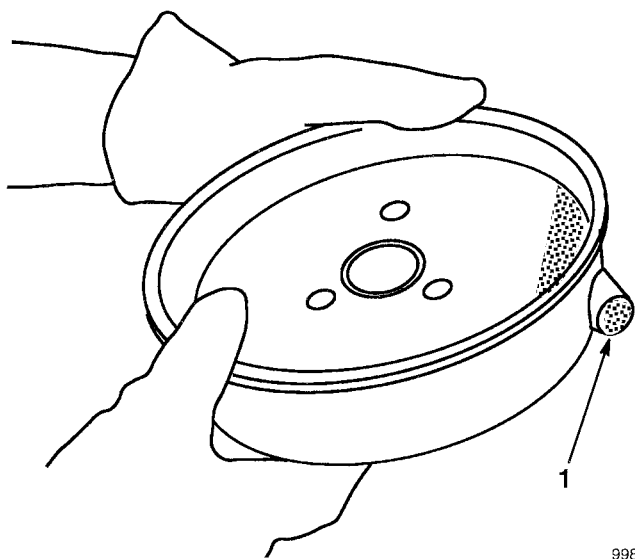

Figure 38
10. Clean carbon deposits from muffler and tube with wire brush and wood dowel (Fig. 38). Wipe muffler clean with paper towel or rag.